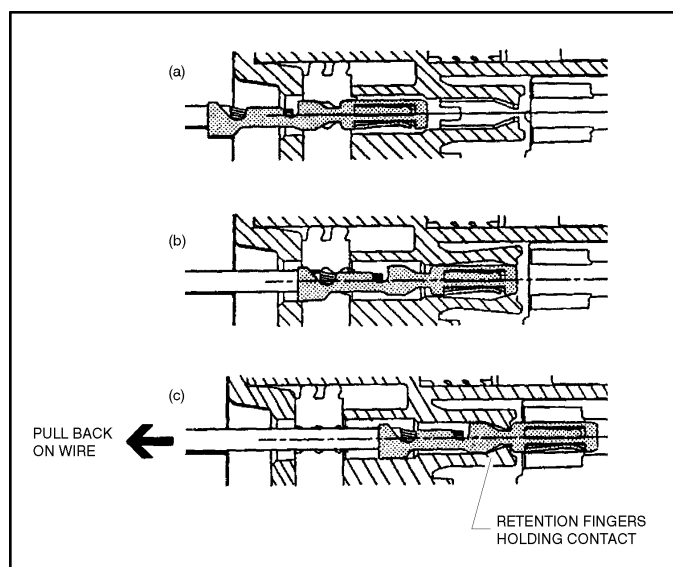

Figure 8-7. Connector Assembly (2 of 4)
1. To insert a contact, push it straight into the appropriate circuit cavity as far as it will go (See Figure 8-7. Connector Assembly (2 of 4)).
2. Pull back on the contact wire with a force of 1 or 2 lb. to be sure the retention fingers are holding the contact (See Figure 8-7. Connector Assembly (2 of 4)).